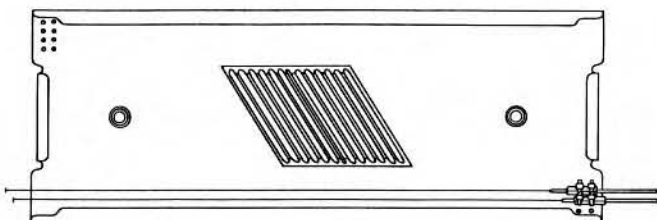

Figure 39
19.08 Lay the buffer tubes onto the tray so the felt taped area will lay within the tie wraps. Securely tighten the tie wraps to hold each buffer tube to the tray. Figure 39.